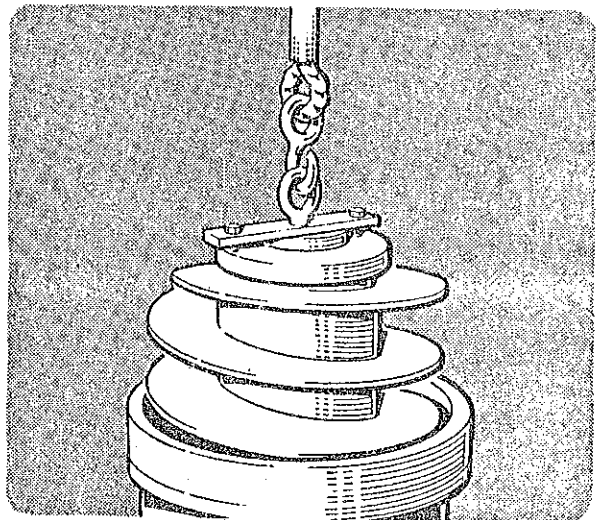

Figure 10. Conveyor removal
- (p) Remove the conveyor lifter from the gear box adaptor and bolt it to the front conveyor insert. Carefully lift out the conveyor (Figure 10). When lifting out the conveyor on sanitary